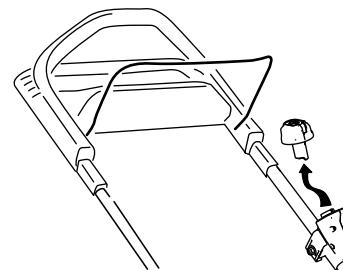

Figure 20
1. Remove the electric-start button (Figure 20).